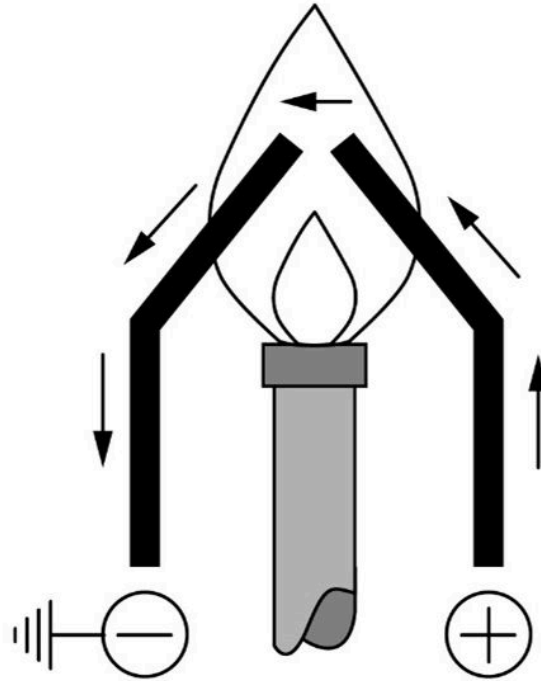

Figure 7 Electron flow through ionized flame
- Figure 7 “Insert type pilot orifice” by Camosun College is licensed under a CC BY 4.0 licence (<https://creativecommons.org/licenses/by/4.0/>).
The operation of the flame rod is based on principle of flame ionization, whereby ions are formed during combustion process. This ionization process makes the flame a high resistance conductor of electricity. This phenomenon can be used to make a flame act like a switch and complete the flame sensing circuit by allowing a small amount of current to flow whenever the pilot flame is present (Figure 7).
When AC voltage is applied across the non-rectified flame conductive system shown in the previous Figure 7 the resulting flame current constantly changes during each half cycle of the AC supply. Consequently, the amount of current is the same in each direction.
- Figure 7 “Electron flow through ionized flame” by Camosun College is licensed under a CC BY 4.0 licence (<https://creativecommons.org/licenses/by/4.0/>).